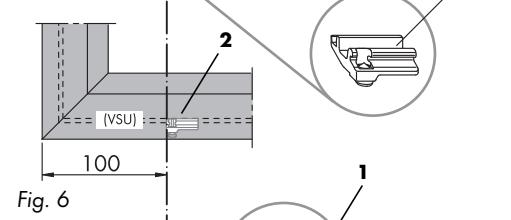

Fig. 6
- A** Slide the stay arm of the brake stay ALU short/long (**5/6**) on to the inserted filling piece for end position cushioning (**4**) as far as the stop (**3**) (Fig. 6).
Position sash lift (1) on bottom locking side as shown (Fig. 6) and fix with grub screws (torque 1.5 ± 0.25 Nm, 2.5 mm AF).